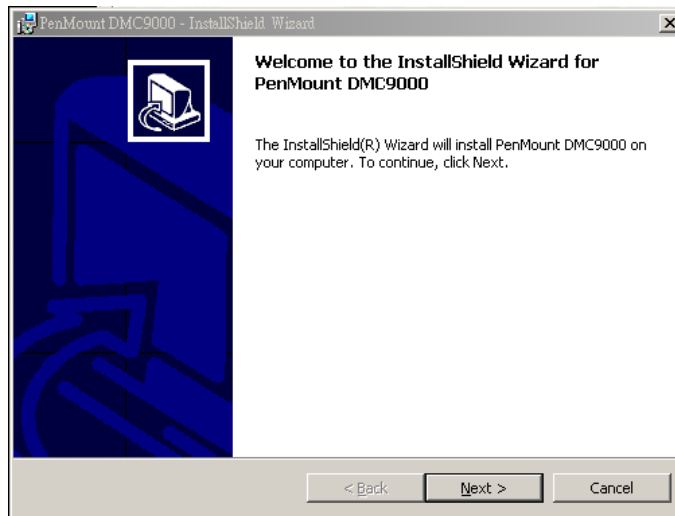

Figure 7-25: Welcome Screen
Step 3: A welcome screen appears (**Figure 7-25**). To continue the installation process click **NEXT**.